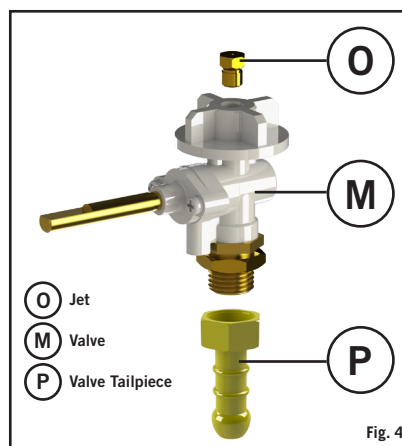

Fig. 4
- Screw a Hose with the correct threaded fittings on each end, onto the left hand 1/4" BSP thread of the Valve (O) (Fig.4). Attach a suitable 50mbar low-pressure regulator on the other end of the hose. The hose used must comply with DIN 4815 part 2 or equivalent.